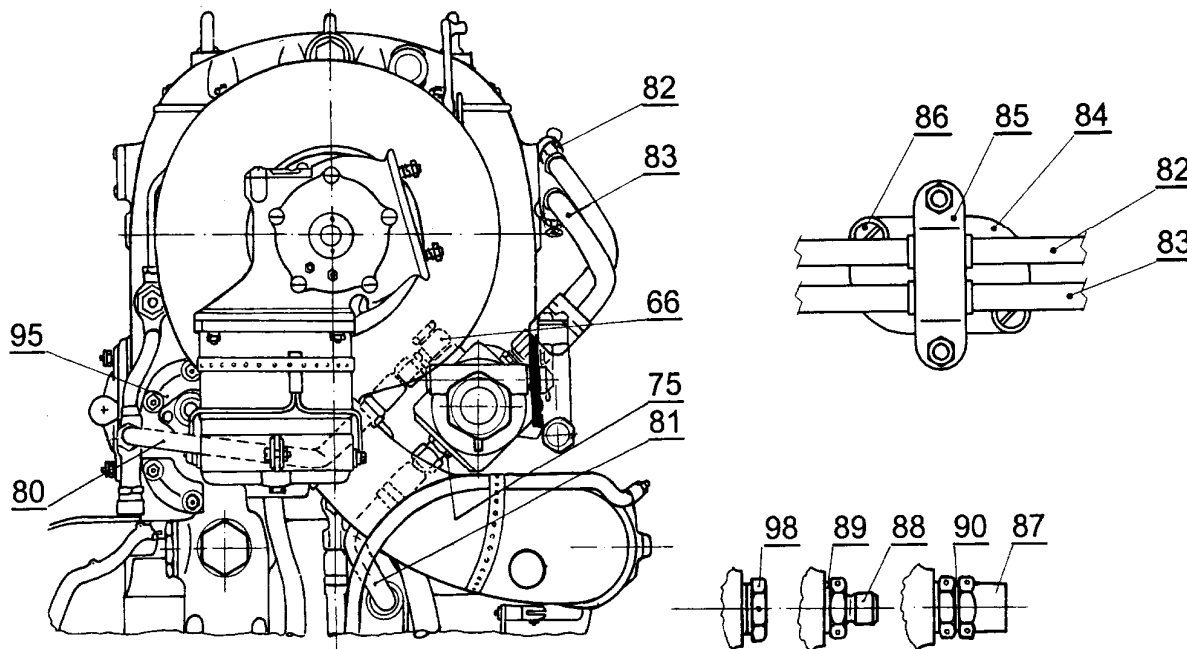

Fig.220 Hydraulic system installation
- (1) Remove caps (87) in the rear space of the engine casing and on side of the oil pump (95) and take them to the engine equipment (see Fig.220).
- (2) Remove an original cap from the collector of the new engine (98) and take it to the engine equipment. From free parts of the propeller system take the throttle for screwing (88) [M12x1,5/M14x1,5 - 6 ČSN 13 7854.41] and sealing ring (89) [12x16 ČSN 02 9310.3] and install them.
- (3) Remove protective covering protecting inner space of the governor out of the governor
Fasten pipes in brackets by clips (85) (see Fig.107, Fig.220).
- (7) Secure sliding nuts by binding wire $\varnothing 0,8$ mm after tightening.
- (8) Connect outlet throat of the pressure oil pump (95) with throat of the side connection (66) on the governor by the hose(80).
- (9) Connect throat of the oil outlet (75) on the governor with throat of the oil collector on the engine by the hose (81).
- (10) Secure sliding nuts by binding wire $\varnothing 0,8$ mm after tightening.
- (11) Install back bend of the compressor sucking pipeline using engine OTM after the hose (81)connecting.